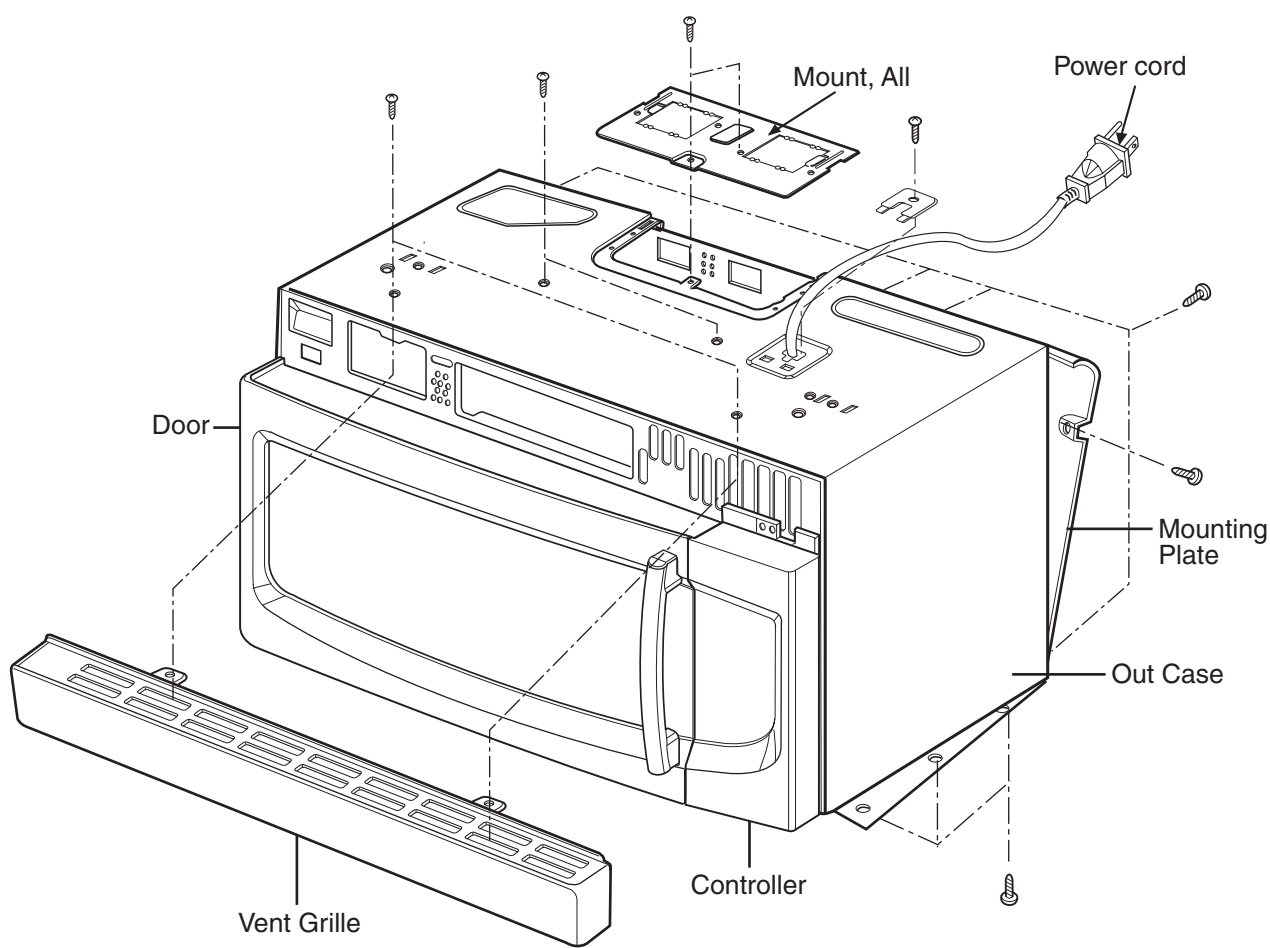

Figure 8
B. REMOVING THE OUTSIDE CASE (Figure 8)
- (1) Remove the vent grille by removing two screws securing it to the outside case.
- (2) Remove two screws securing it to the air duct.
- (3) Remove the mounting plate by turning the screws (1 or 2 screws)securing it to the outside case.
- (4) Remove two screws on the left central edge and two screws on the right central edge of Base plate. Remove the Mount, All from the outside case by removing one screw securing it to the outside case.
- (5) Remove four screws of the rear cavity.
- (6) Remove the outside case.